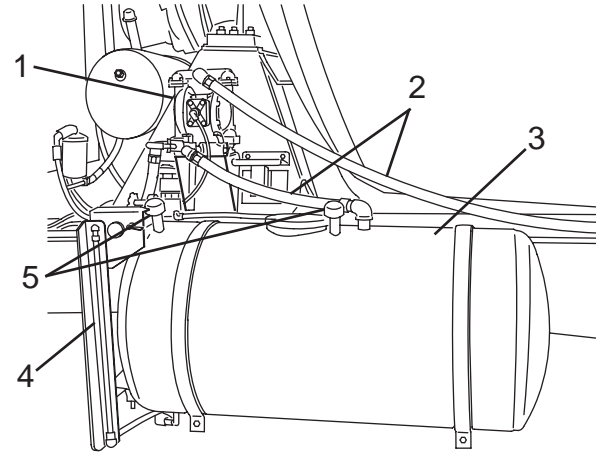

Figure 104
1. Inspect the water tank(s) (Figure 104, Item 3) for leaks, cracks, breaks, or structural damage.
2. Inspect hoses (Figure 104, Item 2) for leaks, cracks, or damage.
3. Inspect sight glass(es) (Figure 104, Item 4) for cracks or damage.
4. Check pump (Figure 104, Item 1) (if equipped) for proper operation.
5. Check breathers (Figure 104, Item 5) (if equipped) to make sure they are free of debris.